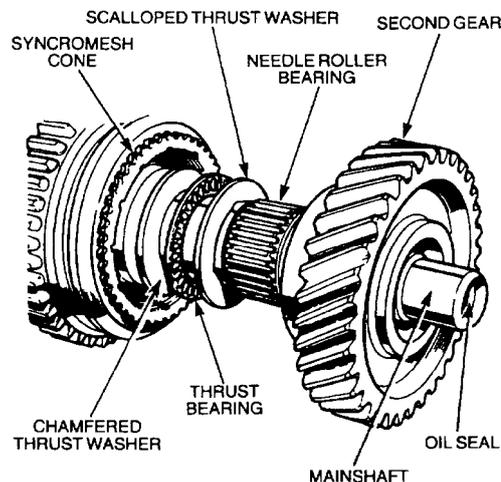

Figure 164 Installing the Second Gear
- f. Install a synchromesh cone along the mainshaft and engage the cone teeth in the first and second synchromesh sliding clutch (Figure 164).
- g. Install a chamfered thrust washer, a thrust bearing and a scalloped thrust washer on the mainshaft. Fit a new needle roller bearing and the second gear (Figure 164).